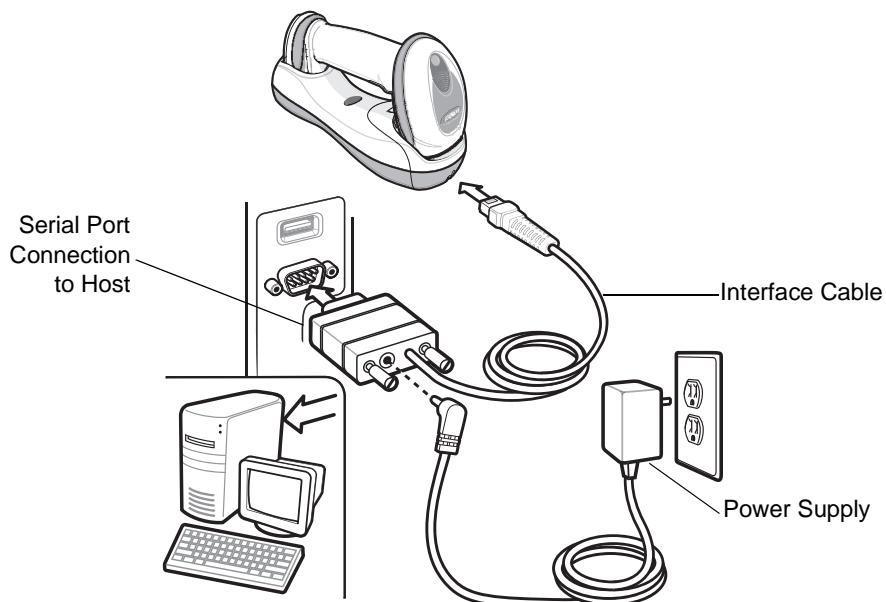

Figure 7-1 RS-232 Direct Connection
**NOTE** Interface cables vary depending on configuration. The connectors illustrated in Figure 7-1 are examples only. The connectors may be different than those illustrated, but the steps to connect the cradle remain the same.